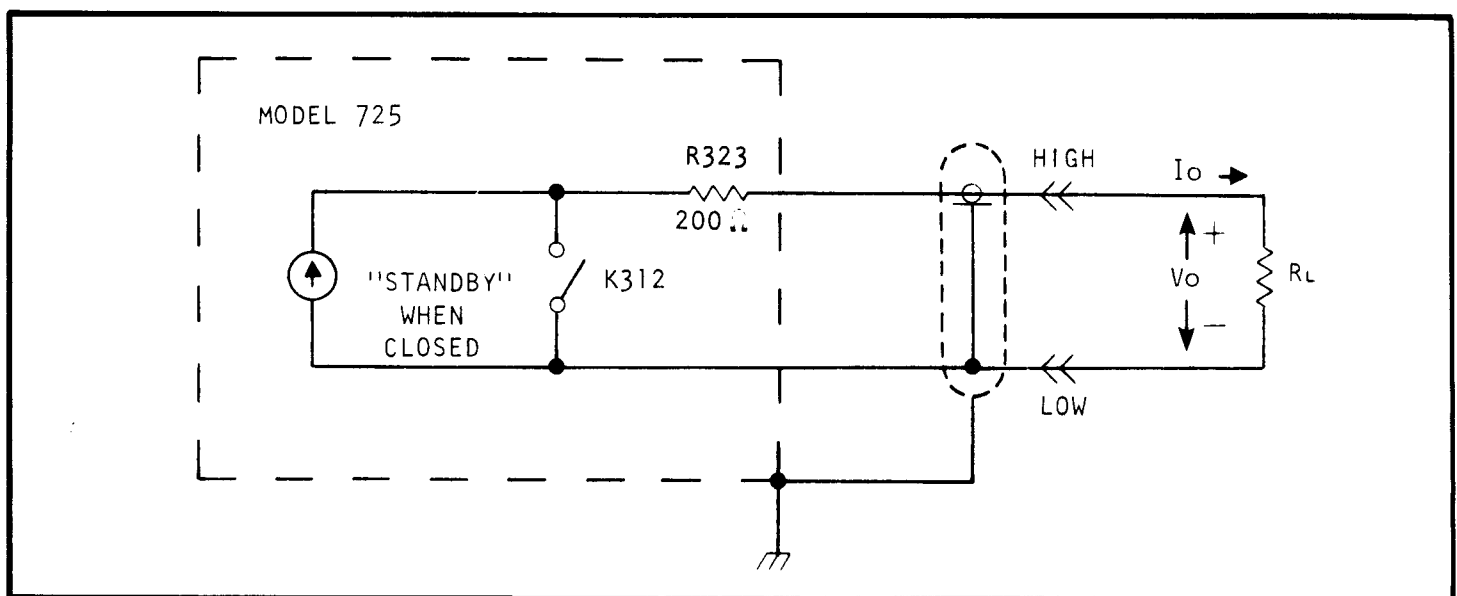

FIGURE 2-5. Resistive Load.
1. Current Source. The instrument can be used as a current source with a resistive load as shown in Figure 2-5. In this case, the Model 725 delivers the programmed current. The voltage developed across the load resistance  $R_L$  is  $V_L = I_0 R_L$ .
3-4. SWITCHING. The polarity relay switches the internal circuitry such that the polarity of the current at the "HIGH" terminal can be changed with respect to "LOW". This is accomplished by reversing the polarity of the voltage references since amplifier "A3" is a bipolar amplifier. The "STANDBY" position permits a change of polarity to be made without developing large transients. The "STANDBY" position connects the "HIGH" output to "LOW" through a 200 ohm shunt as shown in Figure 2-5. Since the selected current will be shunted through the relay contact resistance, up to 40 millivolts can be developed between the "HIGH" and "LOW" terminals with no load.